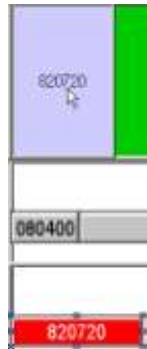

Figure 138: Highlighting Processes
- 1) Move the mouse pointer slightly over the bin. The assigned process will be selected and highlighted. *Please refer to the Figure 138.*